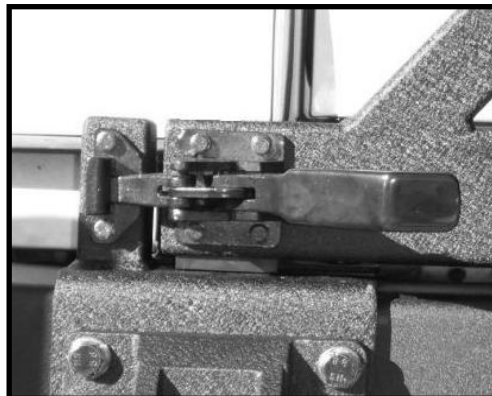

Figure 10.
8. Adjust both the catch post bracket and spindle bracket from side to side so that the tire carrier can be latched (Figure 10).